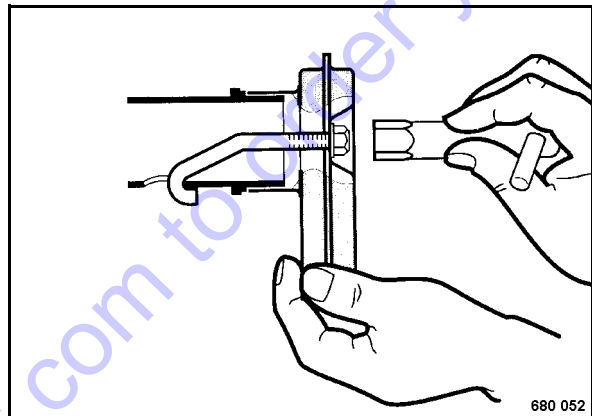

Fig. 55
- Unscrew the fastening nut (Fig. 55), remove the exhaust screen and the fastening bracket.